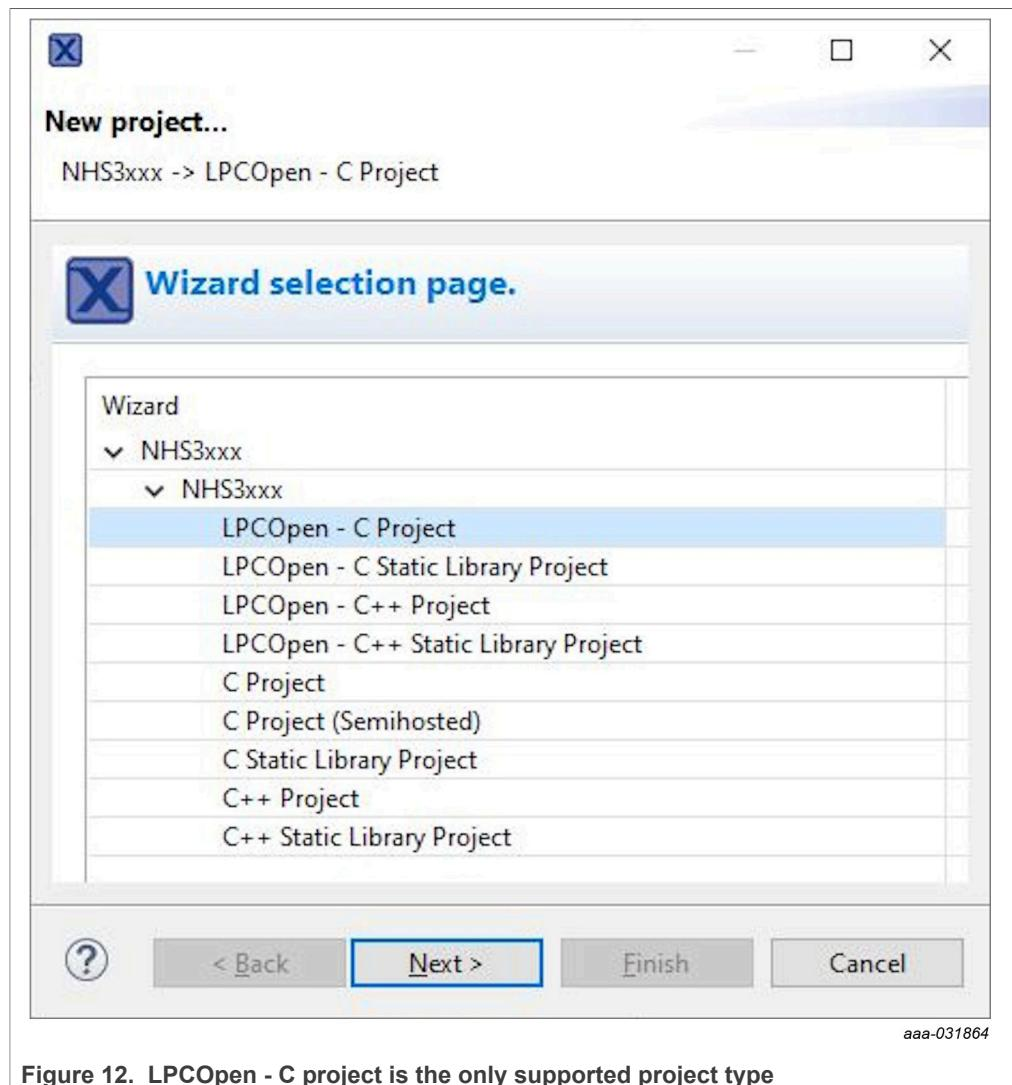

Figure 12. LPCOpen - C project is the only supported project type
3. Select LPCOpen – C Project (see Figure 12).